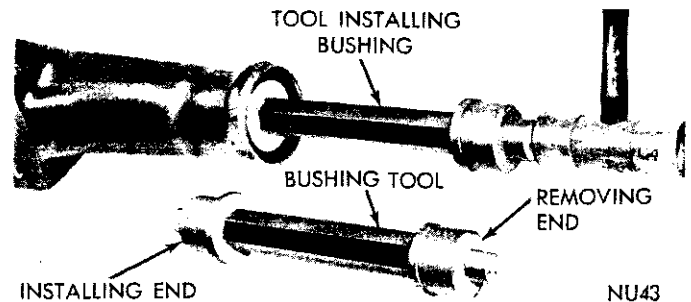

Fig. 39—Replacing Bushing in Extension Housing
(2) Drive the bushing out of housing (Fig. 39) with Tool C-3974.
(3) Slide a new bushing on installing end of Tool C-3974. Align oil hole in bushing with oil slot in housing, then drive bushing into place (Fig. 39).